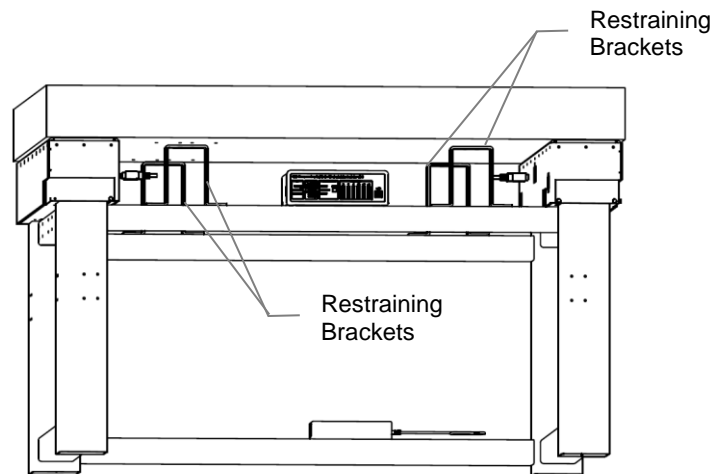

Figure 18 Breadboard restraining brackets
3. Remove the restraining brackets that secured the table breadboard during shipping (Figure 18). There are 4 restraining brackets under the table top. After the brackets are removed, and sufficient load is placed on the breadboard according to minimum value listed in Table 1 for this particular model, the breadboard will float freely on the modules' springs. A 0.187" Hex Wrench is required. It is enclosed in the User Kit 90078017.